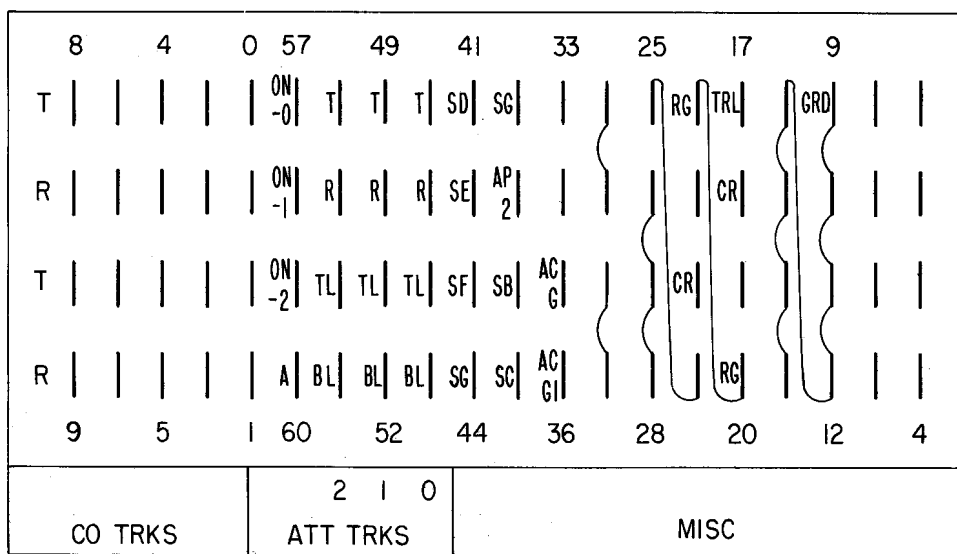

Fig. 8 — Miscellaneous Terminal Strip in Rear of 556A PBX
3.15 Plug in the house and feeder cable provided on the jacks of the line cutoff unit (3.09). Terminate the trunk and miscellaneous cable as shown in Fig. 8 and Table B.